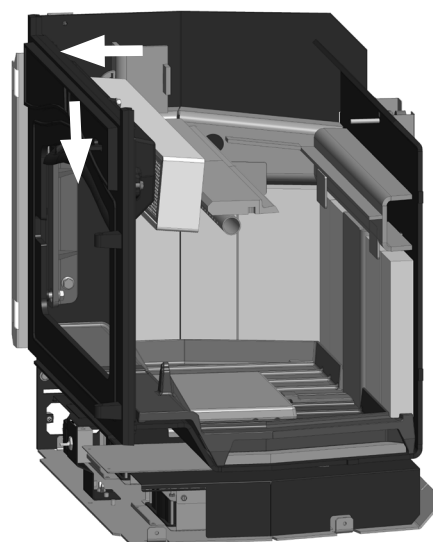

Figure 5.12. Push the combustor from behind to the front of the firebox and remove
5. To remove catalyst and insulation wrap, reach up behind the front refractory member and push the catalyst forward, alternating push positions from left and right until catalyst and insulation wrap are forward of the front refractory member. Lower catalyst down and remove from firebox. Fig 5.12.